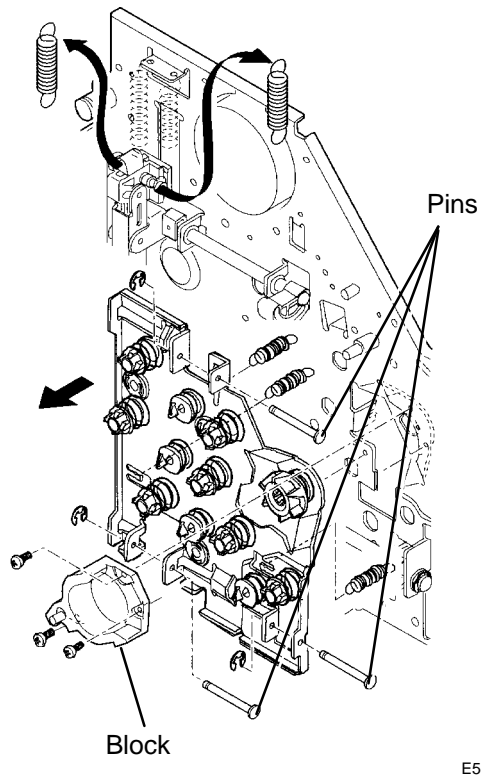

Figure 3. Removing the Pins and Block
5. (Figure 3): Remove the 3 pins and the Block.